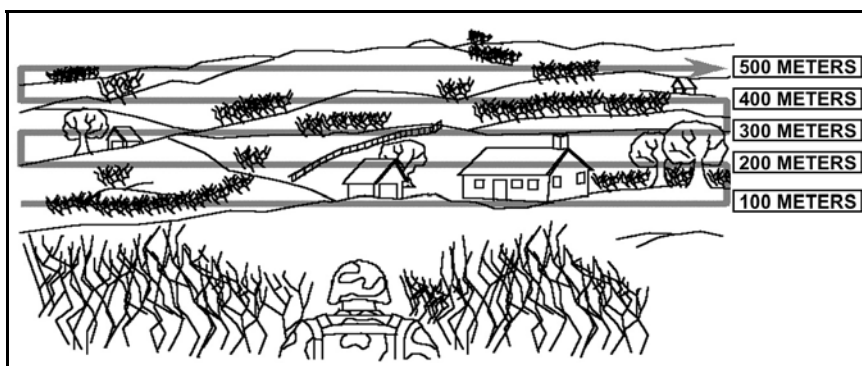

Figure 4-21. Slow/rapid scan.
c. **Scan for Targets**. The gunner must scan his sector of fire or area of surveillance at all times for the enemy. The scanning techniques that help to detect targets quickly are rapid scan, slow scan, and detailed search. The gunner observes the following procedures in all three techniques to scan for targets effectively (Figure 4-21). The gunner:
(2) **Slow Scan**. If there are no targets detected during the rapid scan, the gunner conducts a slow scan of the sector (Figure 4-21).